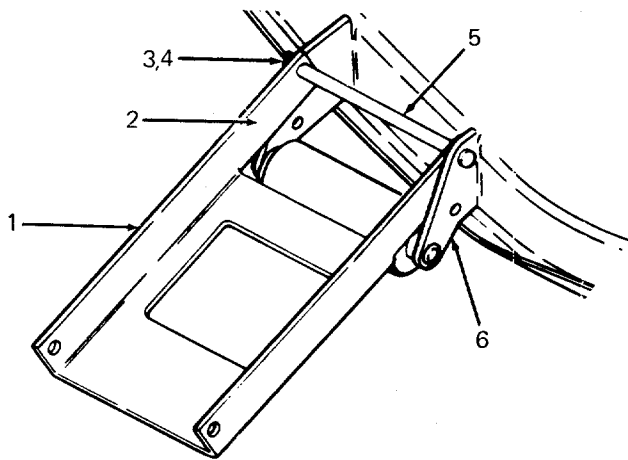

Figure 49
4. Refer to Figure 49 to determine the proper positioning of the front hanger assembly in relation to the tractor and deck. Note that when the front hanger assembly is properly positioned, the hanger extensions face the rear of the tractor,